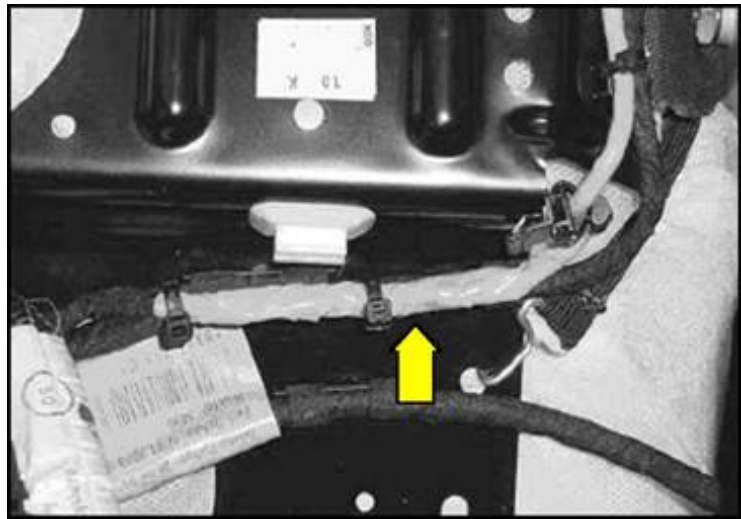

Figure 6. Repaired wires wrapped in electrical tape.
11. Wrap the repair using yellow electrical tape to indicate that the wiring harness has been modified (Figure 6).